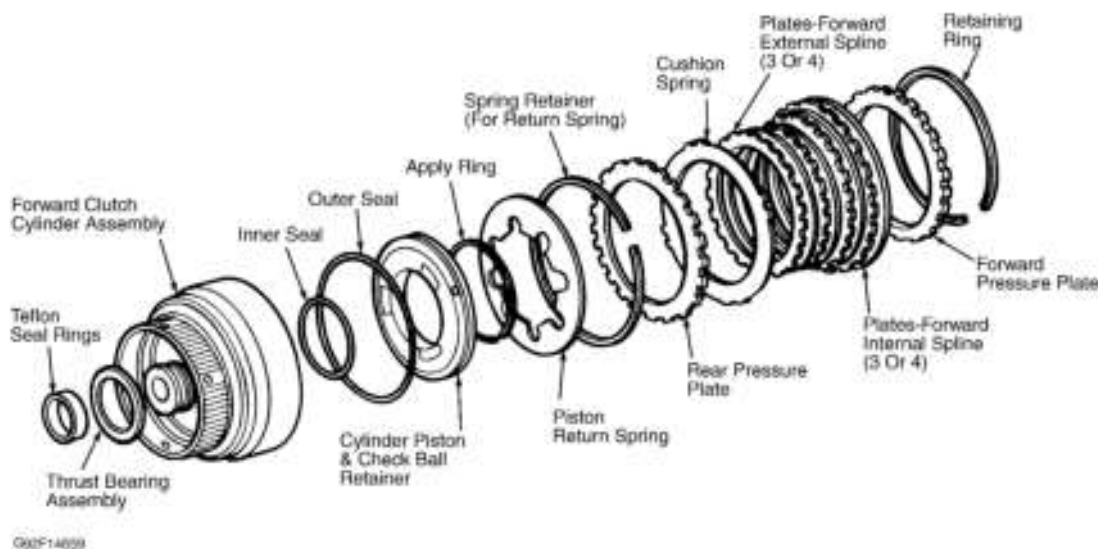

Fig. 17: Exploded View Of Forward Clutch
2. Install rear pressure plate and cushion spring. Install 3 or 4 steel plates, and 3 or 4 friction plates (depending on model). Alternately install a steel plate and then a friction plate. See **Fig. 17**. Install forward pressure plate and secure pack with retaining ring.